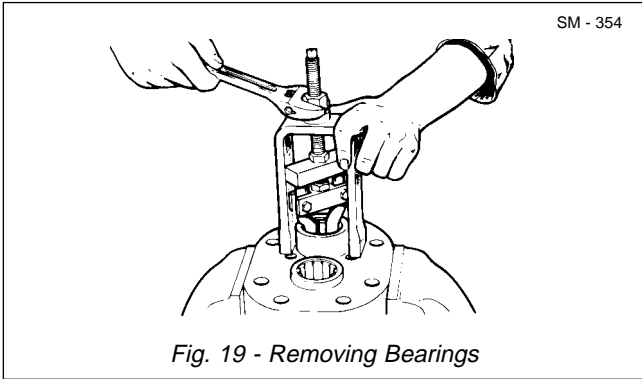

Fig. 19 - Removing Bearings
end cover (23). See Figs. 19 & 20.
16. Remove and discard all pocket seals (10) from thrust plates (11), and seals (14 & 16) from gear housings (15 & 22).
17. Remove plug (7) only if damaged.